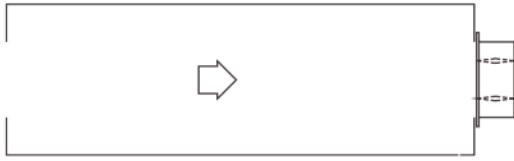
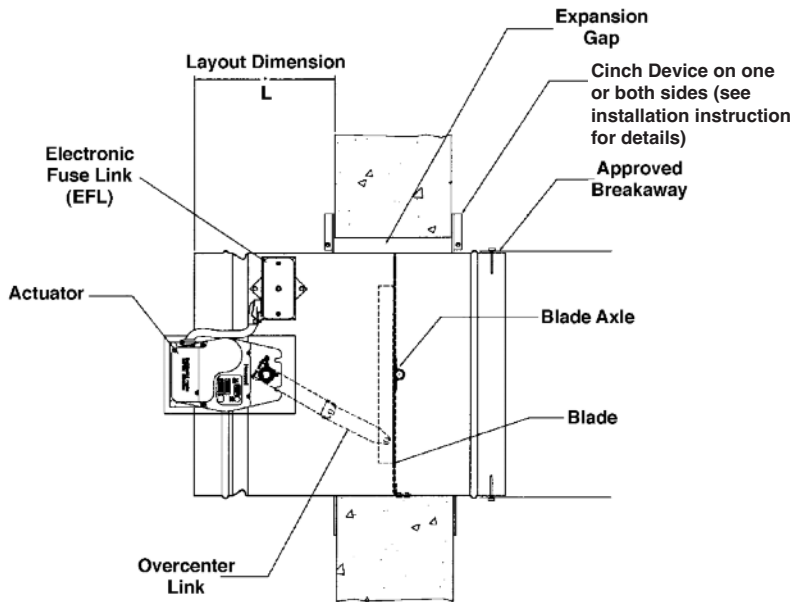

**Figure 5.2**
**Figure 5.5**
**Figure 5.2** Illustrates a ducted damper exhausting air into an open area. This configuration has a lower pressure drop than Figure 5.5 because entrance losses are minimized by a straight duct run upstream of the damper.
**Figure 5.5** illustrates a plenum mounted damper. This configuration has the highest pressure drop because of extremely high entrance and exit losses due to the sudden changes of area in the system.